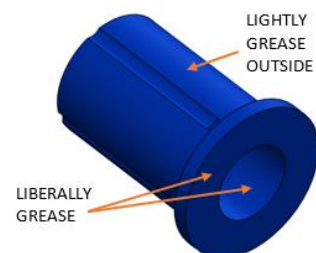

Figure 2: Diagram of bush greasing
- Very lightly grease outer bore of bushes (figure 2) and fit into the leaf spring eyes and vehicle chassis;
- Grease the inside and the ends of the bushes (figure 2) and the surfaces of the shackle pins;